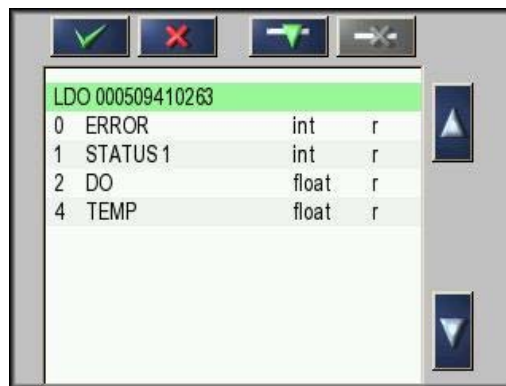

Figure 45 Profibus/Modbus configuration menu—Device list
- Select a probe/device and press the **ENTER** button. The probe/device (including serial number) is added to the Telegram box (Figure 45).